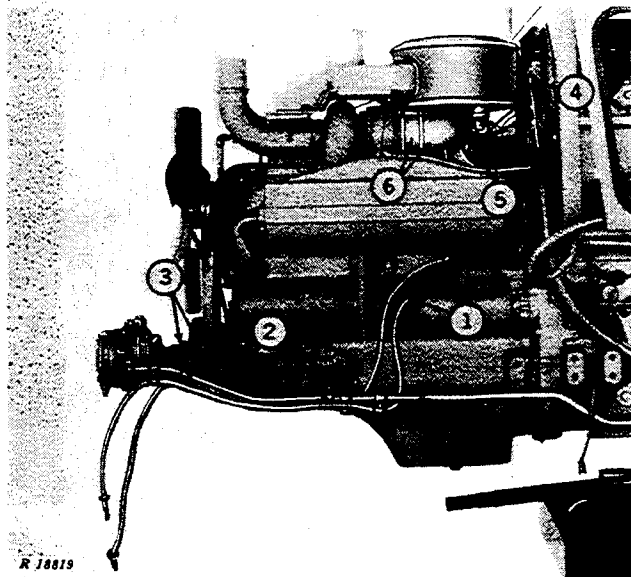

Fig. 15-Left-Hand Side of Engine
1. Disconnect battery cables from starter (Fig. 15).